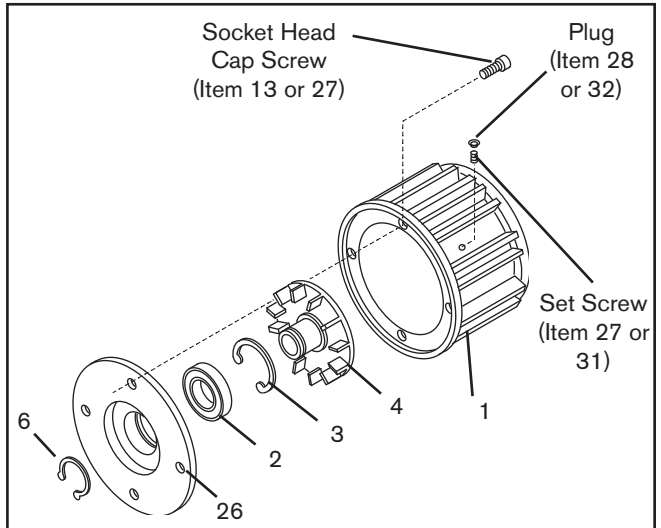

FIGURE 13
NOTE: If an Input Unit is installed on the FMCBE, it must be removed before servicing the FMCBE. Remove Cap Screws and the Plug and loosen the Set Screw to release the FMCBE from the Input Unit (See Figure 13).
2. Remove the Plug and Set Screw (See Figure 13).
3. Remove the four Socket Head Cap Screws (See Figure 13).
4. Remove the Female Pilot (Item 26) from the Housing (Item 1) (See Figure 13).
5. Remove the Retaining Ring (Item 6) and press the Drive Disc (Item 4) out of Female Pilot (Item 26) (See Figure 13).
6. Remove the Retaining Ring (Item 3) (See Figure 13).
7. Fully supporting the Female Pilot (Item 26), press the old Ball Bearing (Item 2) out of the Female Pilot (See Figure 13).
8. Clean the bearing bore of the Female Pilot (Item 26) with fresh safety solvent, making sure all old Loctite® residue is removed (See Figure 13).
9. Apply an adequate amount of Loctite® 680 to evenly coat the outer race of the new Ball Bearing (Item 2) (See Figure 13).
10. Supporting the Female Pilot (Item 26) and pressing on the outer race of the new Ball Bearing (Item 2), press the new Ball Bearing into the Female Pilot (See Figure 13).
11. Reinstall the Retaining Ring (Item 3) (See Figure 13).
12. Support the inner race of the new Ball Bearing (Item 2) and press the Drive Disc (Item 4) into the new Ball Bearing (Item 2) and Female Pilot (Item 26) (See Figure 13).
13. Reinstall the Retaining Ring (Item 6) (See Figure 13).
14. Using the four Socket Head Cap Screws, secure the Female Pilot (Item 26) to the Housing (Item 1) (See Figure 13).